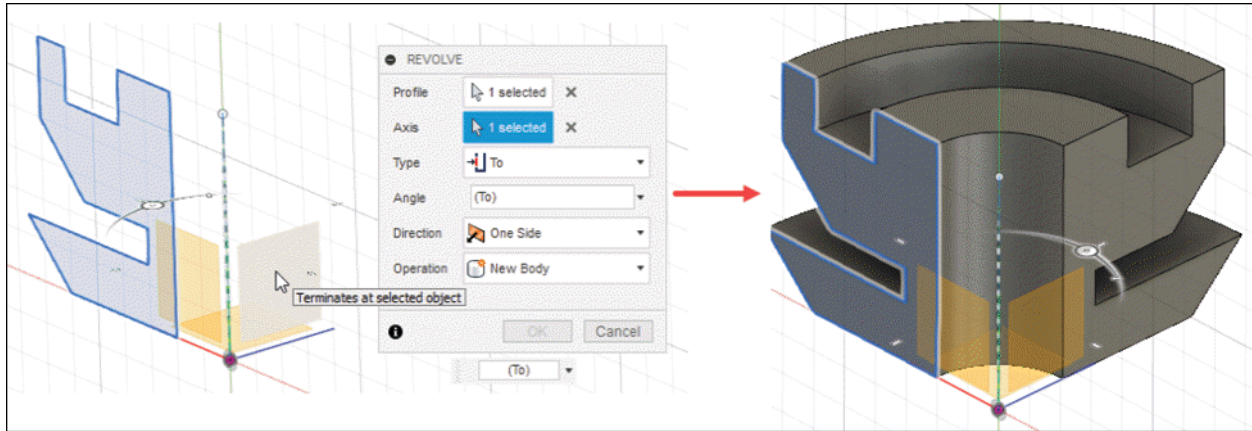

Figure-55. Preview of To option
- Select the **To** option from **Type** drop-down if you want to revolve the model up to a plane, face, surface, or vertex; refer to Figure-55.